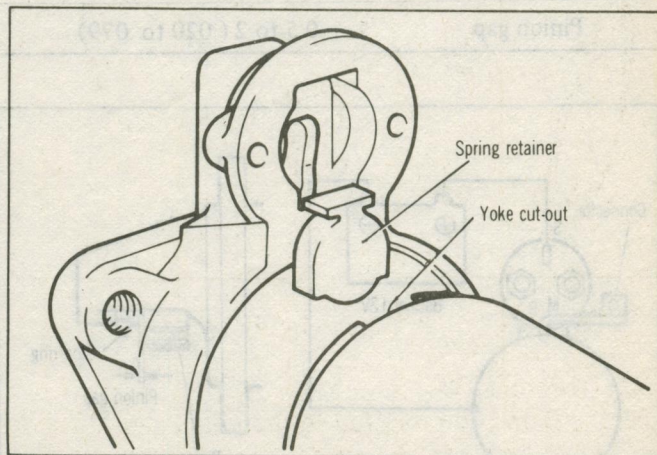

Fig. 19 Installing Yoke Assembly
(4) Install the small washer on the front end of the armature shaft.
(5) Fit the lever in the overrunning clutch and install into the front housing together with the armature.
(6) Install the lever spring and spring retainer and then install the yoke assembly. (Fig. 19)